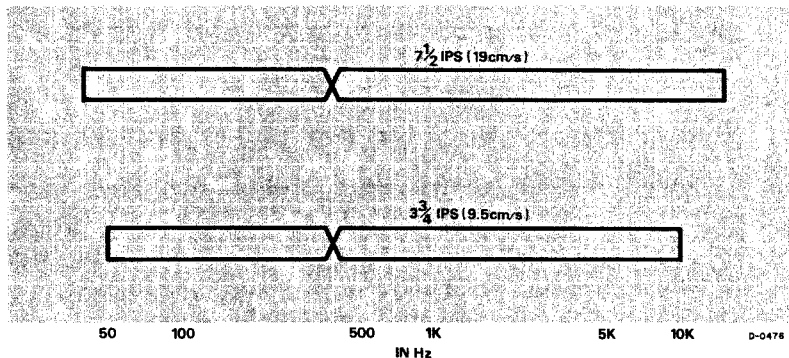

Fig. 7-4 Frequency Response Limits -Playback-
14. Compare the readings obtained on the level meter with the response limits given in Fig. 7-4